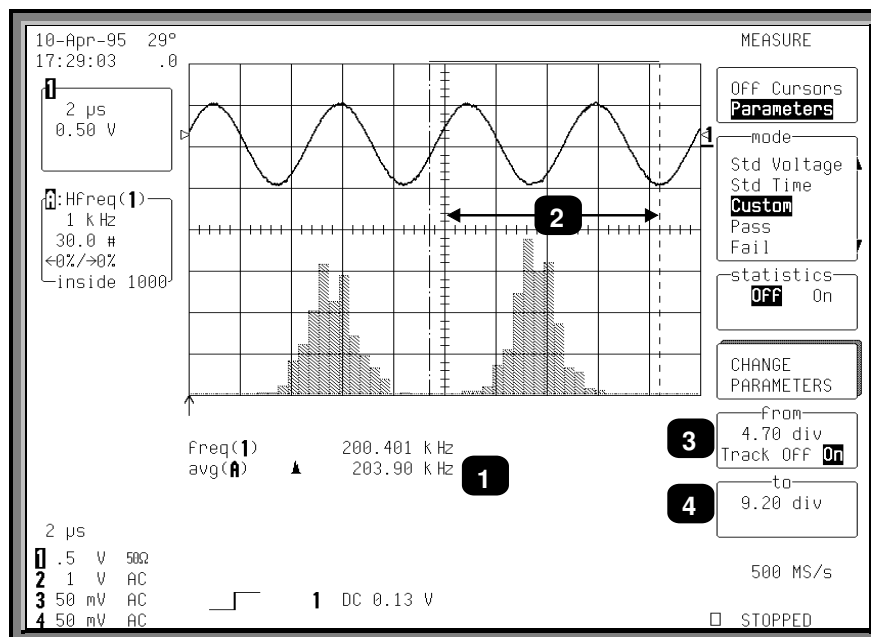

Figure 2.8
You can use cursors (see Chapter 4) to select a section of a histogram on which a parameter is to be calculated. Figure 2.8 below shows the average, "avg(A)" (Item ❶) of the distribution between the parameter cursors for a histogram of the frequency ("freq") parameter of a waveform. The parameter cursors (❷) are set "from" 4.70 divisions (❸) "to" 9.20 divisions (❹) of the display.